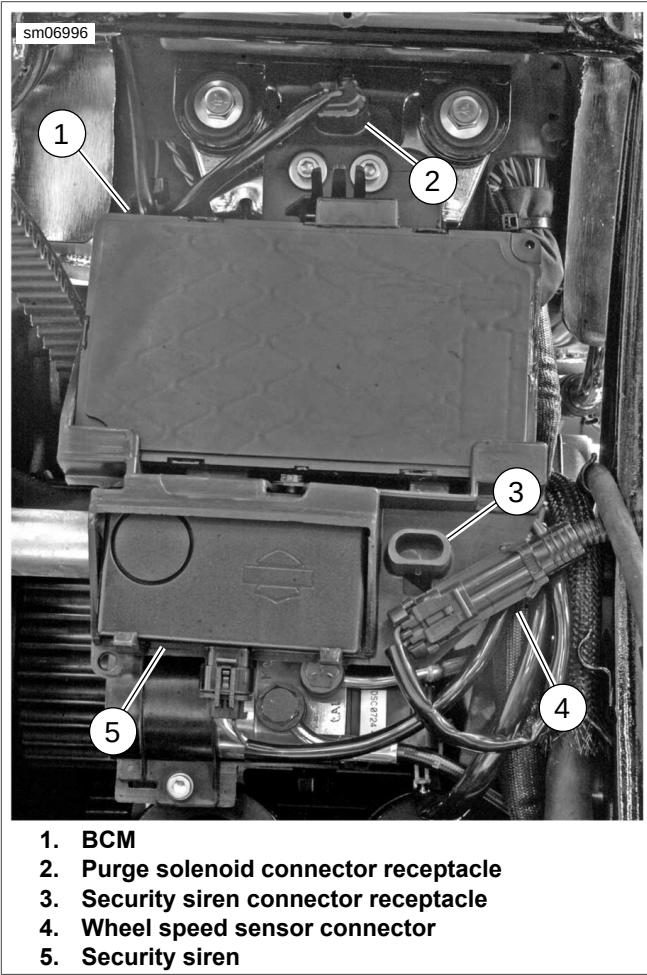

Figure C-1. Body Control Module (BCM): All But FXSB
5. See Figure C-1. Detach body control module (BCM) (1) from electrical panel and remove both electrical connectors.
2. See Figure C-1. Connect both BCM connectors and install BCM (1) onto electrical panel.